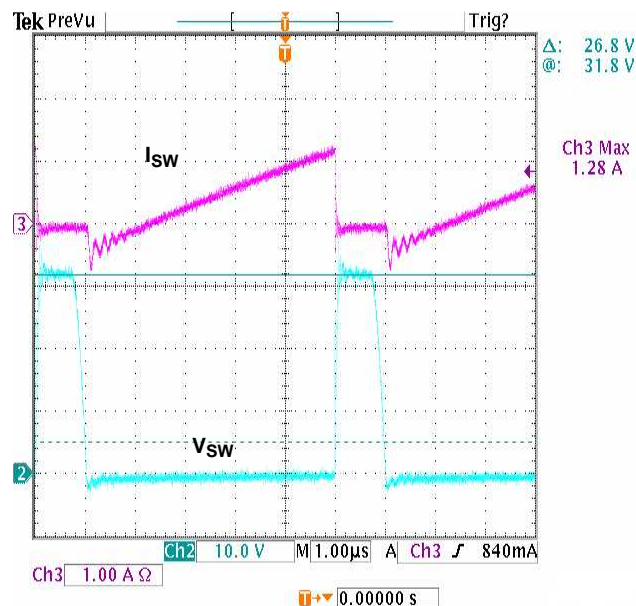
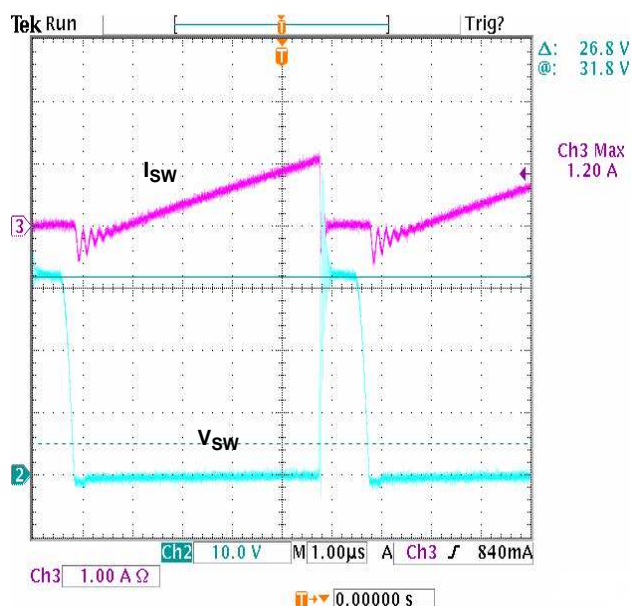

Figure 26. Switching Voltage of a Good-Performing Transformer
Figure 27. Switching Voltage of a Poor-Performing Transformer
1. Any design factor resulting in a large leakage inductance value on the primary side should be avoided because it can cause device failure due to overvoltage. The selection of a proper transformer as discussed in the preceding section can help reduce leakage inductance. Figure 26 and Figure 27 show the difference between a good-performing transformer and a poor-performing transformer.